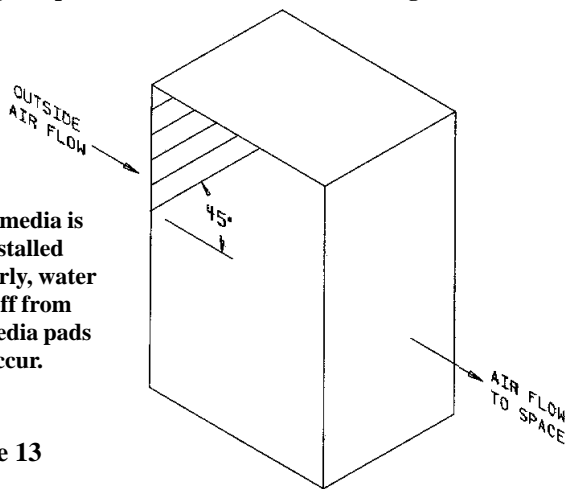

Figure 13
- (1) Replace media by sliding over both support rails until backstop is encountered. Media position **MUST** be as illustrated in Figure 13.
- (2) Replace and center the inlet screen on the incoming air side of the media.
- (3) Replace the two side screen retainers by fitting them between the side of the media pads and the side of the cooling module. The retainers should fit snugly, pinching the screen against the media pads.
- (4) Replace the bottom pad retainer by securing the retainer between the pad and the reservoir pan. Fasten with the three sheet metal screws removed.
- (5) Replace the top pad retainer by securing the retainer between the pad and the top of the cooling module. Fasten with the three sheet metal screws removed.
6. Replace media by sliding media pads over both support rails until back stop is encountered. Media **MUST** be placed with airflow as shown in Figure 13.
IMPORTANT: The cooling media is made up of two different sheets of cooling material. Each sheet has its own unique angle. When replacing the cooling media, BE CERTAIN the 45° angle slopes downward toward the incoming outside air. (See Figure 13.) If the media is not installed properly, water blowoff from the media pads will occur.
4. Re-assemble, being careful to install media with air flow direction as shown in Figure 13.